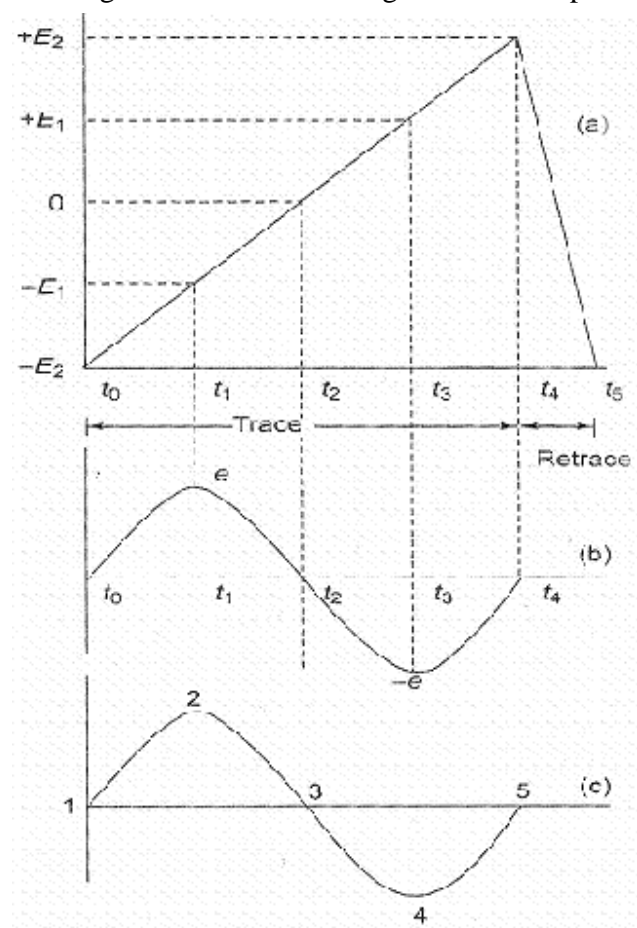

fig 5.1 Waveform of sweep voltage
2. The spot must move in one direction only, i.e. from left to right only, else the signal will be traced backwards during the return sweep. This means that the sweep voltage must drop suddenly after reaching its maximum value. These requirements call for a sweep voltage having a linear saw tooth waveform, as shown in Fig. 5.1.